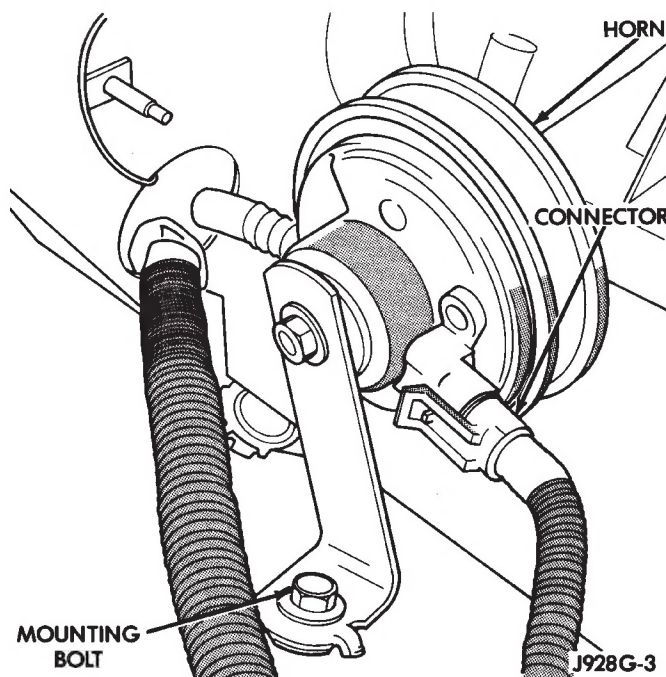

Fig. 4 Horn Mounting - YJ
- (1) Disconnect wire harness connector from the horn (Fig. 4).
- (2) Remove horn and bracket mounting bolt. Horn and bracket are removed as an assembly.
- (3) Reverse removal procedures to install.